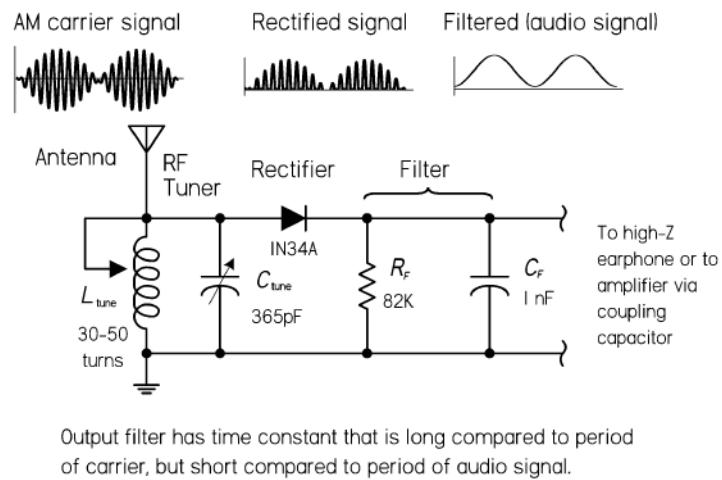

FIGURE 4.25
Diodes are often used in the detection of amplitude modulated (AM) signals, as demonstrated in the simple AM radio in Fig. 4.25. Within an AM radio signal, an RF carrier signal of constant high frequency (550 to 1700 kHz) has been amplitude modulated with an audio signal (10 to 20,000 Hz). The audio information is located in duplicate in both upper and lower sidebands, or the envelope of the AM signal. Here, an antenna and LC-tuning circuit act to "resonate" on the specific carrier frequency of interest (transform radio signal into corresponding electrical signal). A signal diode (e.g., 1N34) is then used to rectify out the negative portion of the incoming signal so it can be manipulated by the next dc stages. The rectified signal is then stripped of its high-frequency carrier by passing through a low-pass filter. The output signal is the audio signal. This signal can be used to drive a simple crystal earpiece, a modern sensitive headphone, or a telephone receiver earpiece. (Low-impedance earphones or speakers will require additional amplification via a coupling capacitor of 1  $\mu$ F or so.)